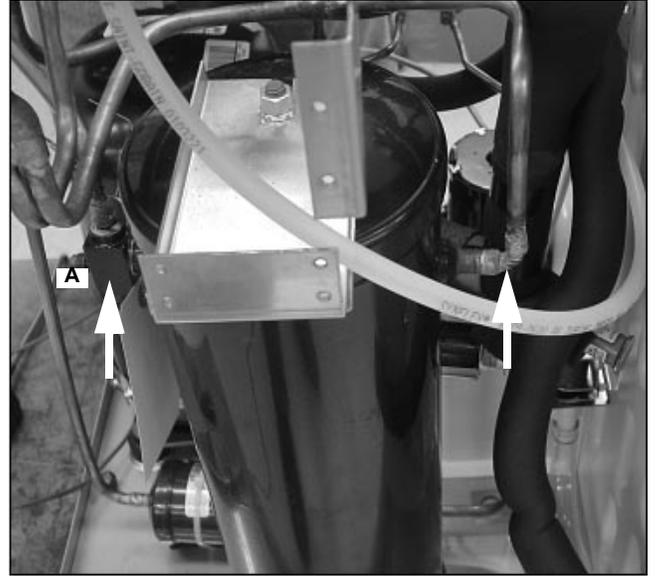

Figure 23. Rear of Unit
22. Move the nitrogen feed to the service port (A) on the receiver. Open the service valve. Protecting the plastic bulkheads and the water pan, remove the connections to the receiver (Figure 23).